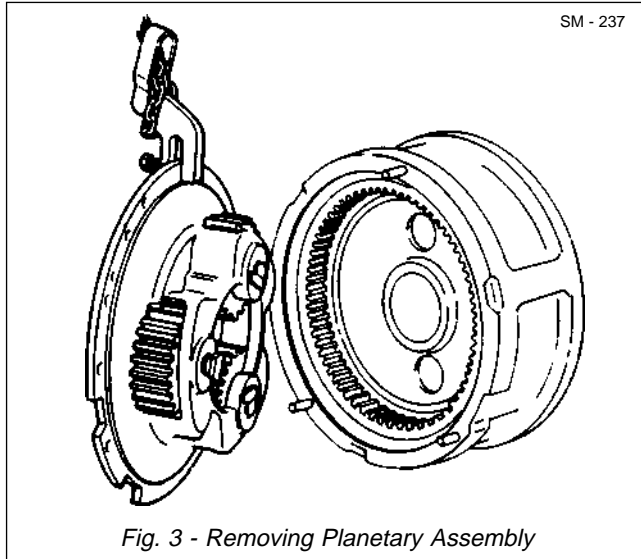

Fig. 3 - Removing Planetary Assembly
exposed holes. A hoist should be used, as shown in Fig. 3, to support the assembly during removal. Remove studs (21) if damaged.
7. Remove and discard 'O' ring (13) and place planetary assembly on a clean work surface with gear side up.
8. Remove nuts (24), bolts (4) and washers (6) from planet pinion (8) assemblies. Slide planet pinion (8) assemblies from planetary carrier (14).
9. Separate pinion bearing (10) sets and spacers (7) from planet pinions (8) and remove snap rings (11) from internal grooves of planet pinion (8).
10. Remove and discard 'O' rings (5) from planetary carrier (14).